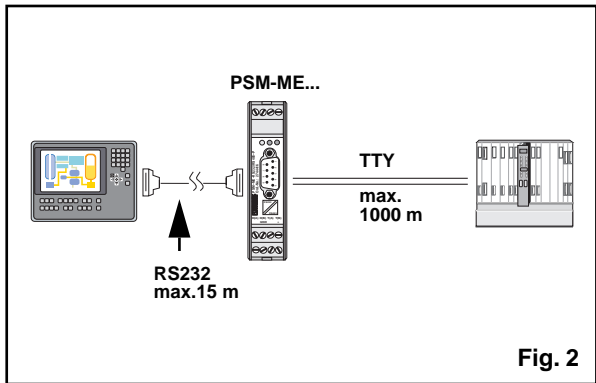

Fig. 2
- permanent TTY line for visualization and process data acquisition (fig. 2)